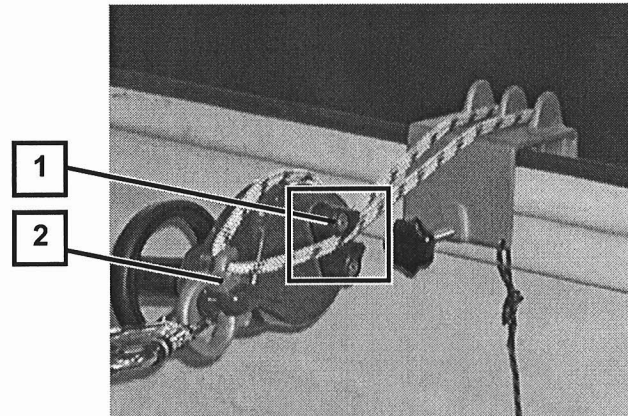

Fig. 27 *Securing the rope on the descender: rope end guided through cam cleat (example with edge protection)*
- To secure it, guide the long end of the rope via the diverter hook through the cam cleat of the descender, see Fig.27